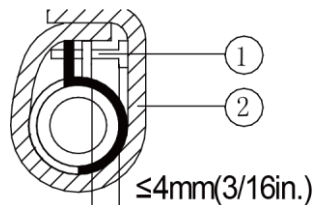

Fig. 4.35
- (3) Perform thermal insulating for Pipe clamp and hose with gasket. (perform the thermal insulation after the drainage system test as shown in fig. 4.35 is finished).